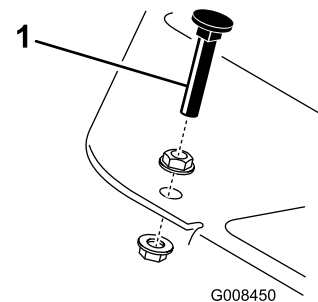

Figure 50
Press down on the traction pedal. If the pedal contacts the stop (Figure 50) before tension is felt on the cable, an adjustment is required:
1. Loosen flangehead locknuts securing the pedal stop to the floor plate (Figure 50).